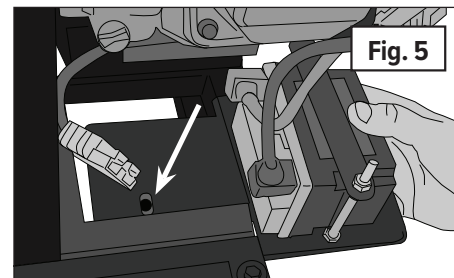
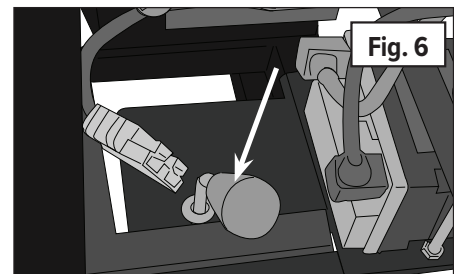

Fig. 5
Fig. 6
*Do not use the large dipstick (Fig. 5) or the large yellow plastic “butterfly” cap (Fig. 6) to measure when filling the engine oil. It is hard to read when the oil is new, and you might over or under fill, resulting in engine damage. Instead, use this simple procedure.*
1. **(Fig. 5)** Install the battery pack by **placing it on to the engine frame making sure the holes in the battery plate line up with the holes in the engine frame** as shown.
2. **(Fig. 6)** Install the FRONT engine clamp knob and rubber washer then tighten.
1. **(Fig. 5)** Turn your mower's steering wheel all the way to the left to determine the longest hose dimension needed.
2. **(Fig. 6)** Screw the hose further into the blower collar; if this shortens the hose enough, you are done. Move on to *Installing the Hose Hammock*.